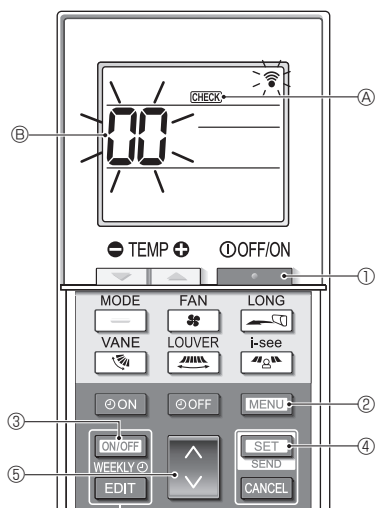

Fig. 7-5
■ Self-check (Fig. 7-5)
- Press the **ON/OFF** button ① to stop the air conditioner.
- If the weekly timer is enabled (**WEEKLY** is on), press the **ON/OFF WEEKLY** button ③ to disable it (**WEEKLY** is off).
- Press the **MENU** button ② for 5 seconds.
- CHECK** ④ comes on and the unit enters the self-check mode.
- Press the **MODE** button ⑤ to select the refrigerant address (M-NET address) ⑥ of the indoor unit for which you want to perform the self-check.
- Press the **SET** button ④.
- Press the **ON/OFF** button ①.
- CHECK** ④ and the refrigerant address (M-NET address) ⑥ go off and the self-check is completed.